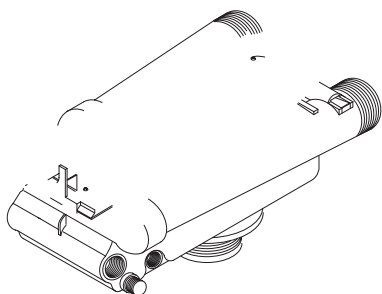

Figure 5.1
4. Using a screwdriver, remove injector screen and injector cap (Figure 5.1).
4. Using a needle-nose pliers, remove the turbine from the outlet housing. Grasp one of the four vanes of the outer gland and pull straight out to remove turbine assembly from the outlet of the valve (Figure 5.1).